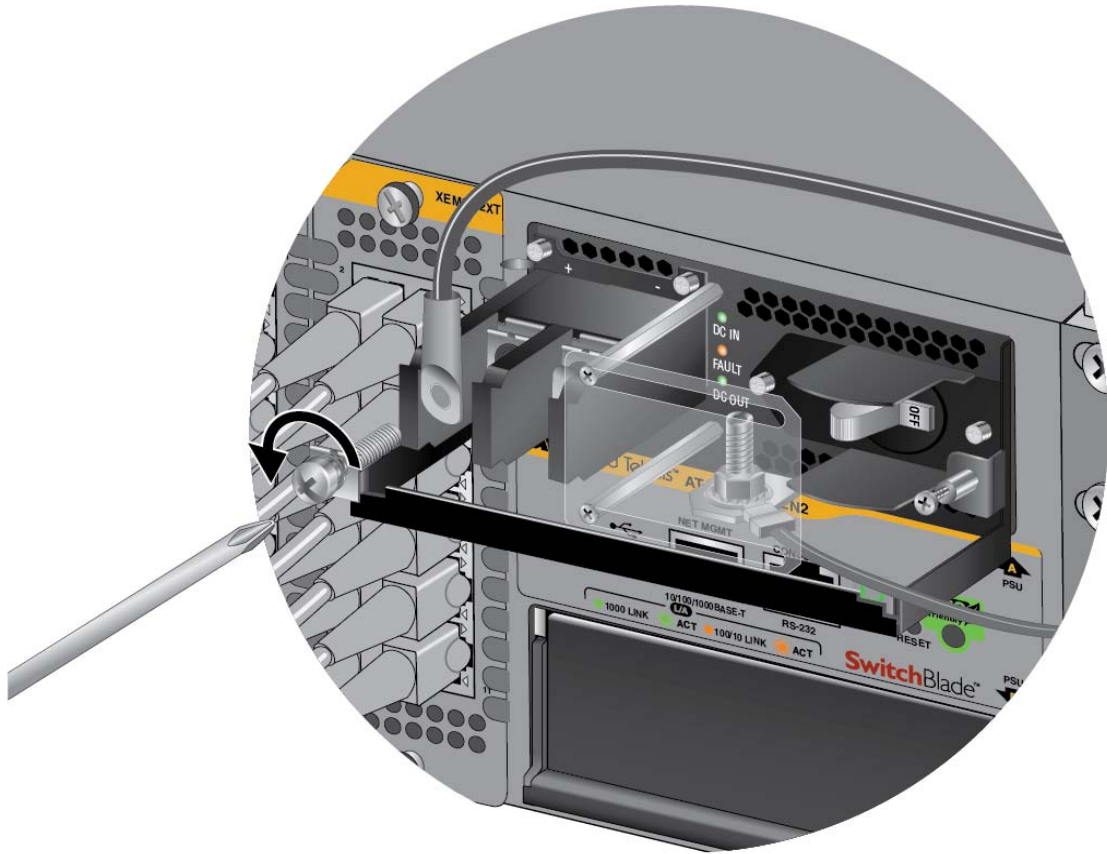

Figure 110. Removing the Positive Lead Wire from the Terminal Block
6. Use a #3 screwdriver to remove the positive (+) lead wire from the terminal block. Refer to Figure 110 on page 152.